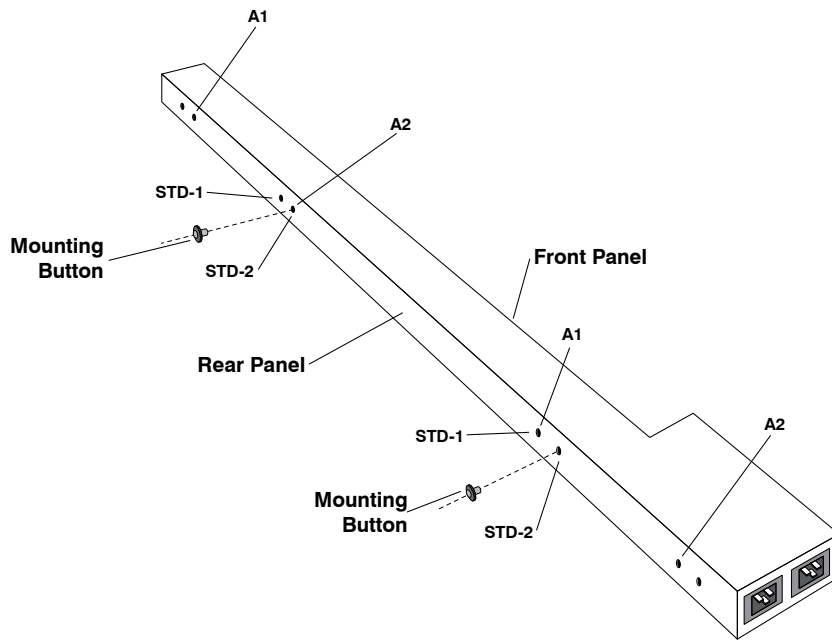

Figure 1: Installing Mounting Buttons (NBB Shown)
1. **Determine the Appropriate Mounting Button Locations:** Refer to Figure 1 and the table below to determine the appropriate button locations for your individual equipment rack: